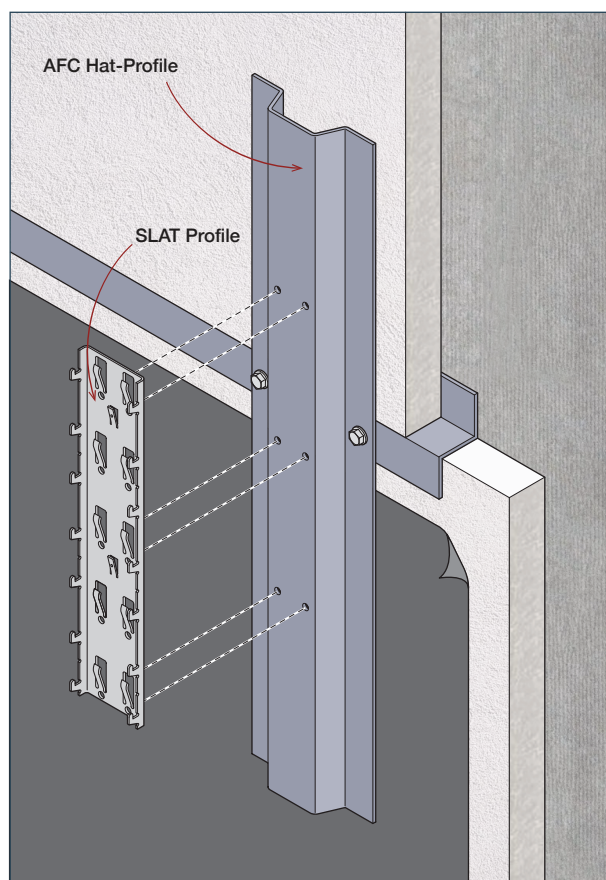

FIG. H3
- For structures with exterior insulation, follow the insulation manufacturer's installation instructions. Z-Profiles, the same depth as the exterior insulation, can be attached to the studs. Then, AFC supplied Hat-profiles (6061-T6 Black Ano) can then be fastened to these Z-Profiles. (FIG. H3 & H4)
- Hat-Profile Attachment (**FIG. H3 & H4**):